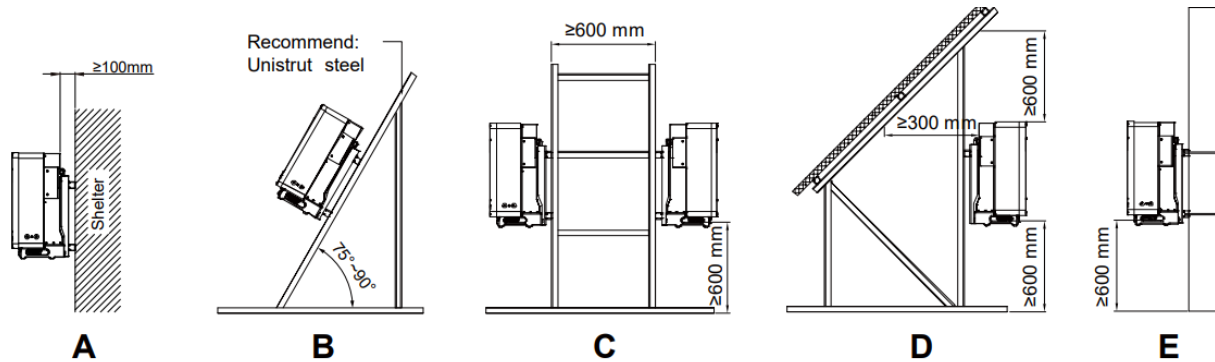

Figure 3-4 Space Requirements
- ✓ Sufficient space (Figures 3-4 and 3-5) must be provided to allow the inverter cooling system to operate normally.